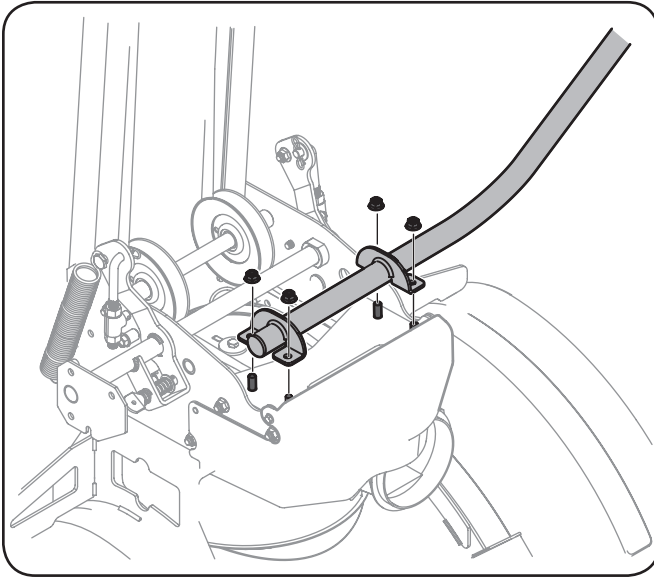

Figure 3-15
1. Using a $\frac{3}{16}$ " wrench, secure the chute crank assembly to the auger housing assembly with four flange lock nuts. See Figure 3-15.